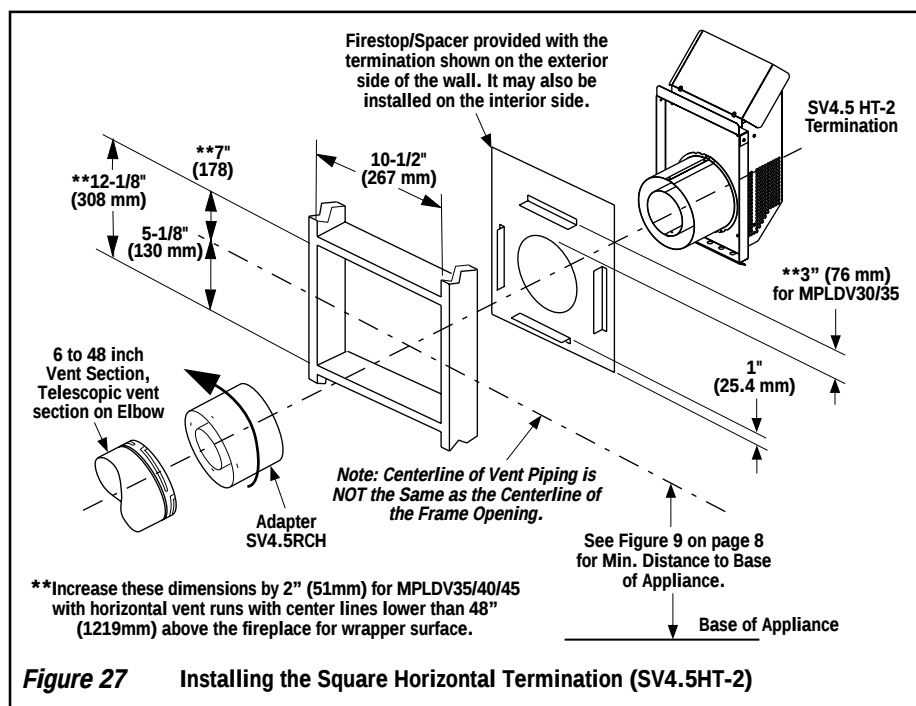

Figure 27 Installing the Square Horizontal Termination (SV4.5HT-2)
M. Attach termination adapter - Attach the adapter (SV4.5RCH - provided with the termination) to the vent section or telescoping vent section), elbow as shown in **Figure 27** in the same manner as any SV4.5 vent component (refer to **Step F**).
N. Install Firestop/Spacer at exterior wall - When using the **square** termination, install the SV4.5HF (Secure Vent) or SF4.5HF (Secure Flex) Firestop/Spacer over the opening at the exterior side of the framing (long side up) as shown in **Figure 27**, and fasten into place. Ensure 5" clearance is maintained by framing above the vent run for MPLDV35/40/45 when center line of the run is **lower** than 48" (1219 mm) above the fireplace top wrapper surface.